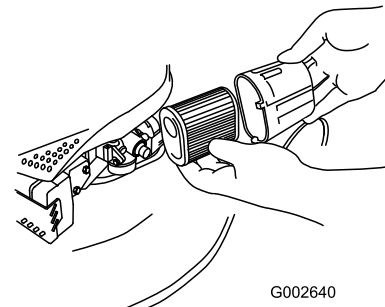

Figure 36
- Rotate the air filter cover to remove it (Figure 36).